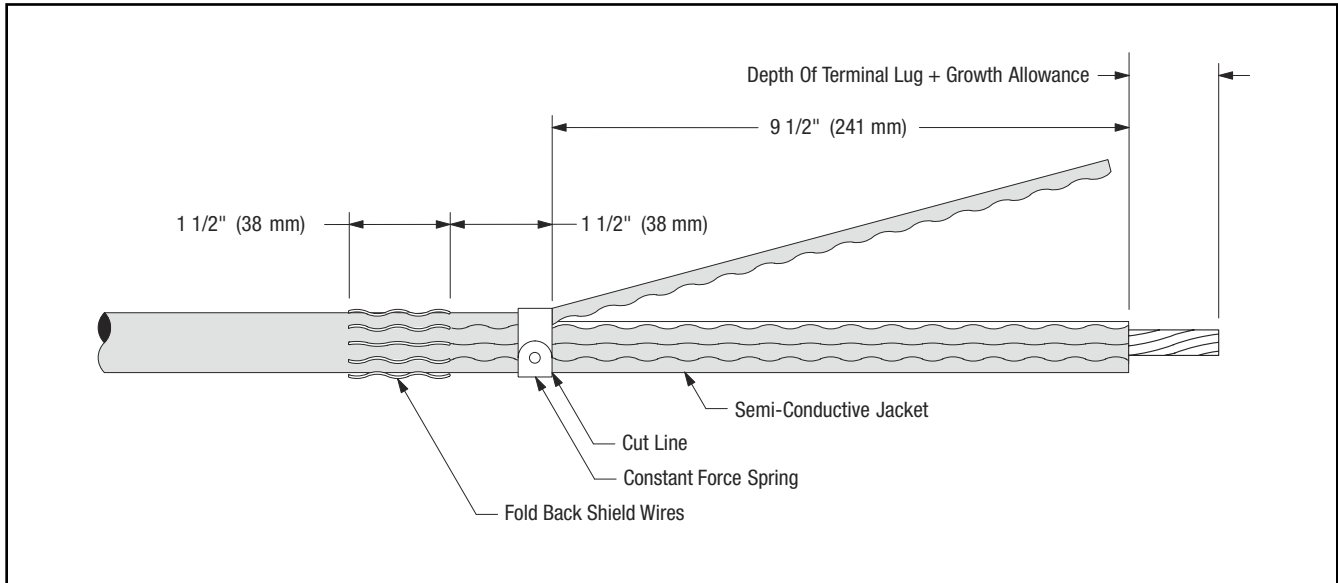

Figure 18
11.5 Remove semi-conductive jacket to dimension shown in Figure 18.
NOTE: To ease jacket removal, install constant force spring as shown in Figure 18 and ring cut 80% through jacket. Remove jacket sections by pulling against constant force spring. DO NOT BELL SEMI-CON JACKET. Remove constant force spring.